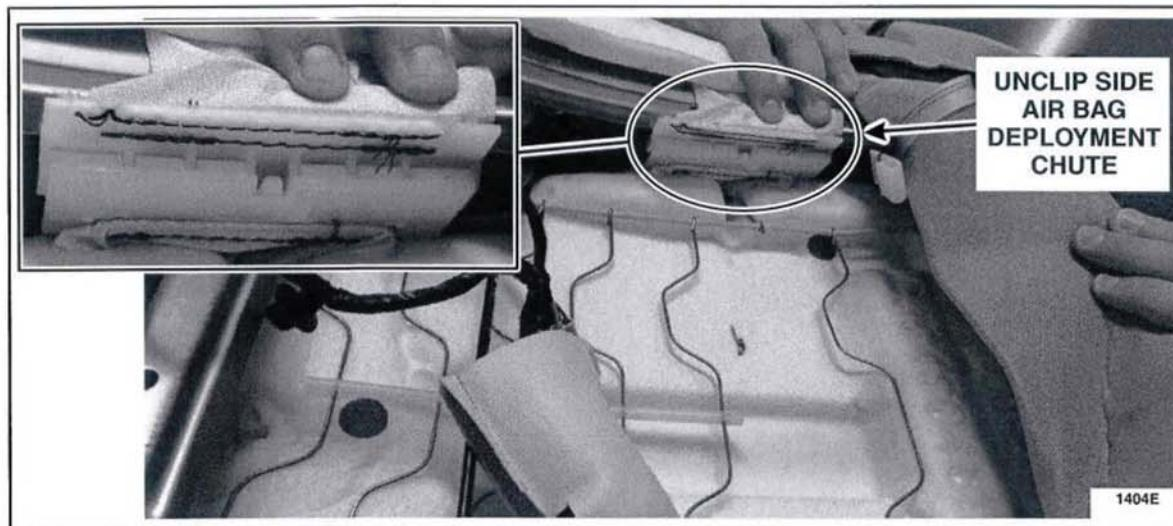

FIGURE 4
6. Unclip the side airbag deployment chute and position it away from the airbag. See Figure 4.